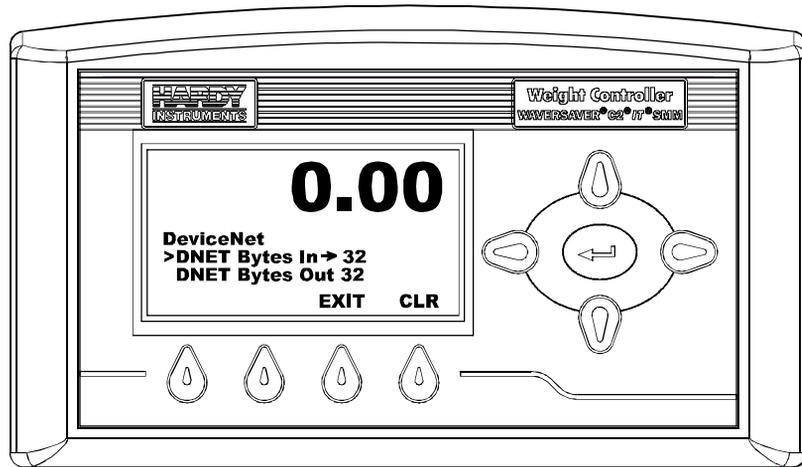

FIG. 121 DEVICENET MENU/SELECTING DNET BYTES IN
Step 12. Press the Down Arrow button until the cursor is in front of “DNET Bytes in”. (See Fig. 121) The present DNET BYTES setting is displayed.